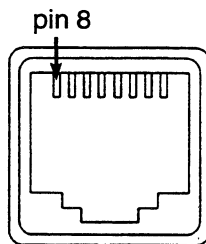

Figure 7-1. J2 Programming Connector, Front View
- Using a DVM or oscilloscope, adjust the **Audio** potentiometer on the ZR320 controller until 470 mV rms (1.33V p-p) is present at pin 8 of the ZR320 controller programming connector J2 on the front of the ZR320 controller (refer to Figure 7-1), or on either pin of JP5 inside the ZR320 controller.